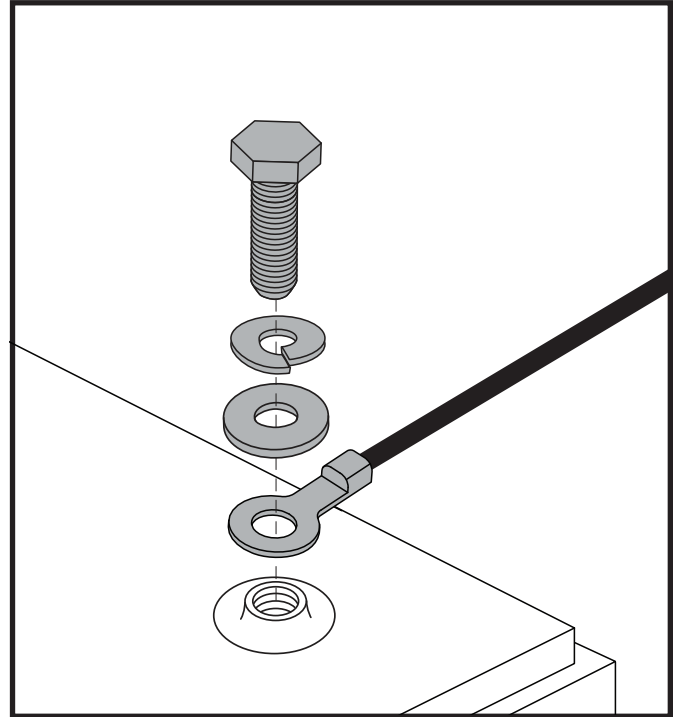

Figure 11. Battery Terminal Hardware
4. Disconnect the battery cables from the battery terminals by sliding back the terminal boots and unscrewing the nut from the bolt. See figure 11.
NOTE: Some scooters have spacers installed to secure the batteries. You may want to remove the spacers for safe keeping until the batteries are replaced in the scooter. See figure 11.